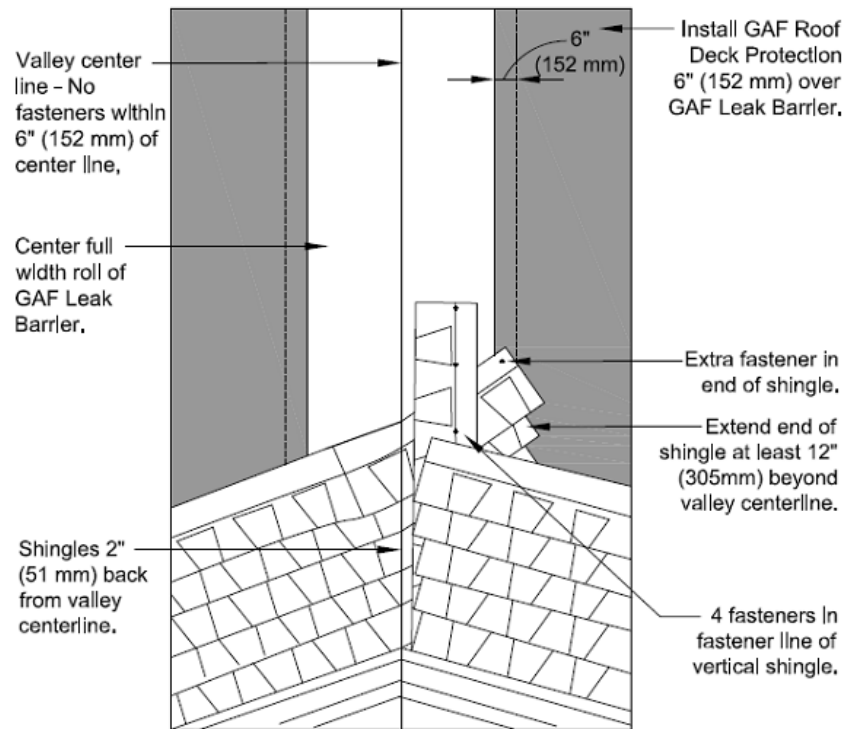

Figure 1: California Closed-Cut Valley
6. **Install one row of shingles, end-to-end**, with the butt edge towards the valley, along the chalk line (see Fig.1).